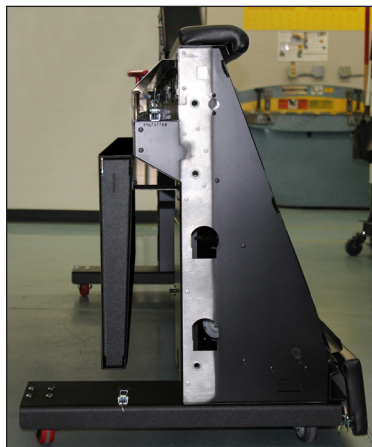
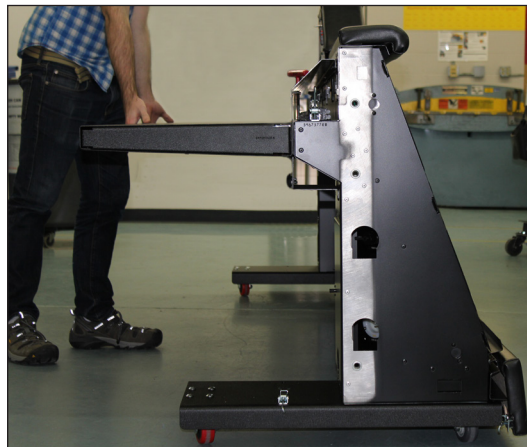

Figure 10: Tabletop Dropped
Figure 11: Lifting Up & Holding Tabletop
2. Starting with the tabletop in the dropped position as shown in **Figure 10**, stand in the middle of one table and lift the tabletop upward as shown in **Figure 11**.